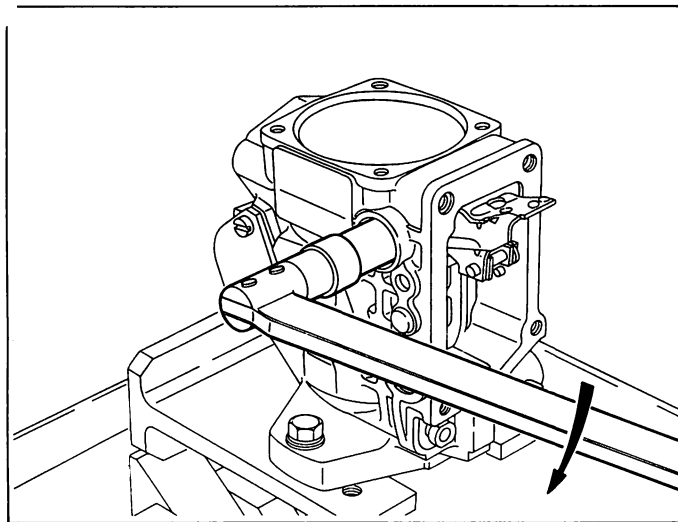

Fig. 67 Installing the governor lever assembly
3. Using a socket wrench (157914-2700), install the governor lever assembly (95) in the pump housing using the pivot bolts (104) and gaskets (105). (Fig. 67)